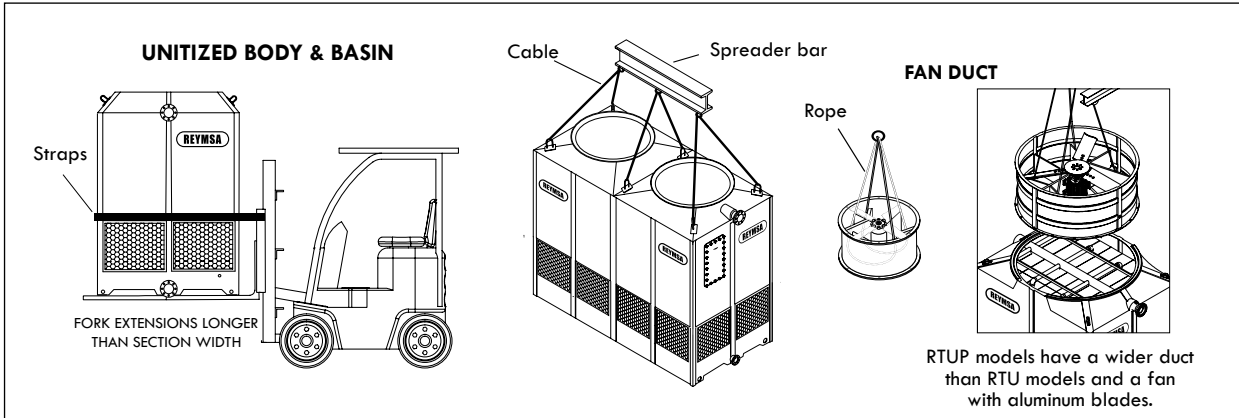

Figure A-38: Two Fan Tower fork and crane lifting
- B. After verifying the equipment is received in proper condition, proceed to unload it piece by piece, with a crane or forklift of the appropriate capacity (see Figure A-38 for reference). If you unload with a forklift, use fork extensions of the proper pallet length according to the width of your model.
- D. For crane lifting, it's recommended to use a minimum lifting angle of 60° between the strap and the horizontal. The Tower has U-bolts for lifting, one on each corner. Place the straps through the u-bolts (as shown in Figure A-38) and use a spreader bar to avoid damage on the upper edge of the Tower. Don't balance until tensing the straps.